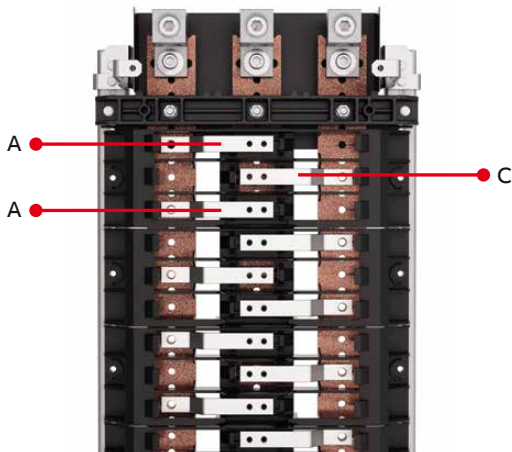

Figure 1. Step 1.
- Step 1: Remove quantity (3) A and C phase. See Figure 1.